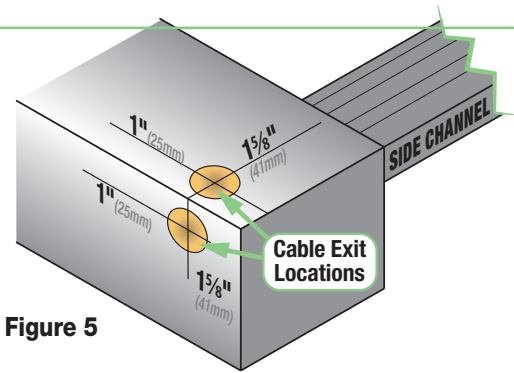

Figure 5
1. Disassemble the frame. Identify conduit connector location on motor headbox (see Fig. 5).
3. Using power drill, drill $\frac{7}{8}$ " (22mm) hole in motor headbox (Fig. 5) to accommodate conduit connector. Deburr hole using deburring tool.